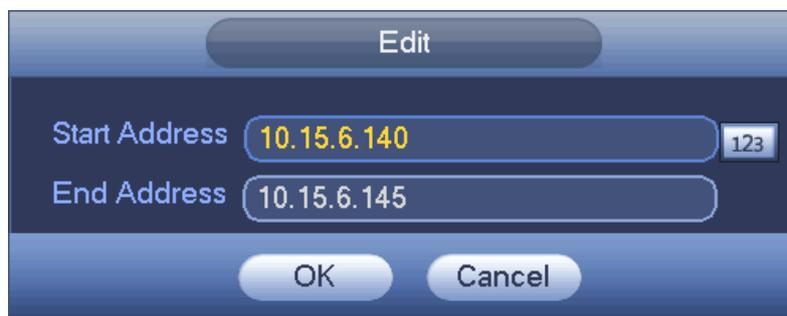

Figure 4-105
- Edit: Click it to edit start address and end address. See Figure 4-105. System can check the IP address validity after the edit operation and implement IPv6 optimization.